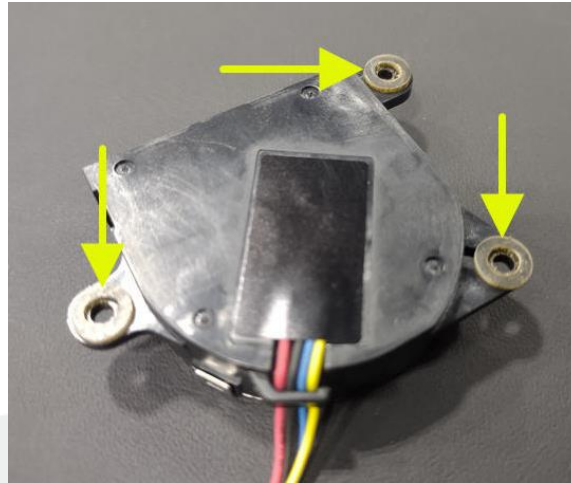

Figure 1
3. Position the adhesive side of the camera fan shims (x3) on the windshield camera fan (Figure 1).